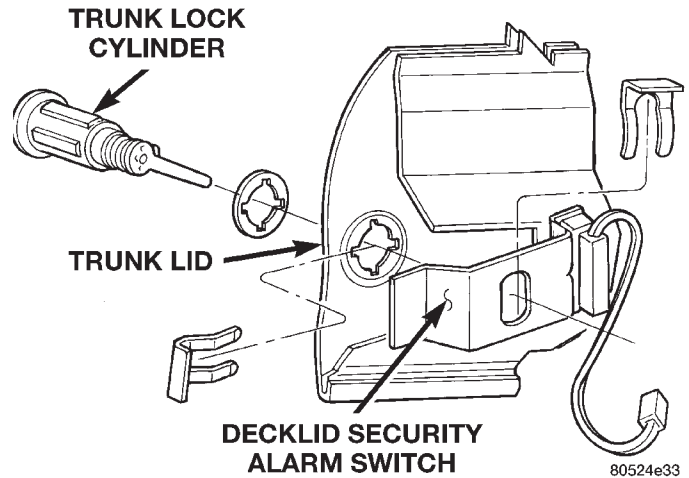

Fig. 74 Trunk Lock Cylinder
- (1) Release trunk latch and open trunk lid.
- (2) Remove trunk latch.
- (3) Remove clip holding trunk lock cylinder to security alarm switch, if so equipped (Fig. 74).
- (4) Remove security alarm switch, if so equipped.
- (5) Remove clip holding trunk lock cylinder to trunk lid.
- (6) Separate trunk lock cylinder from vehicle.